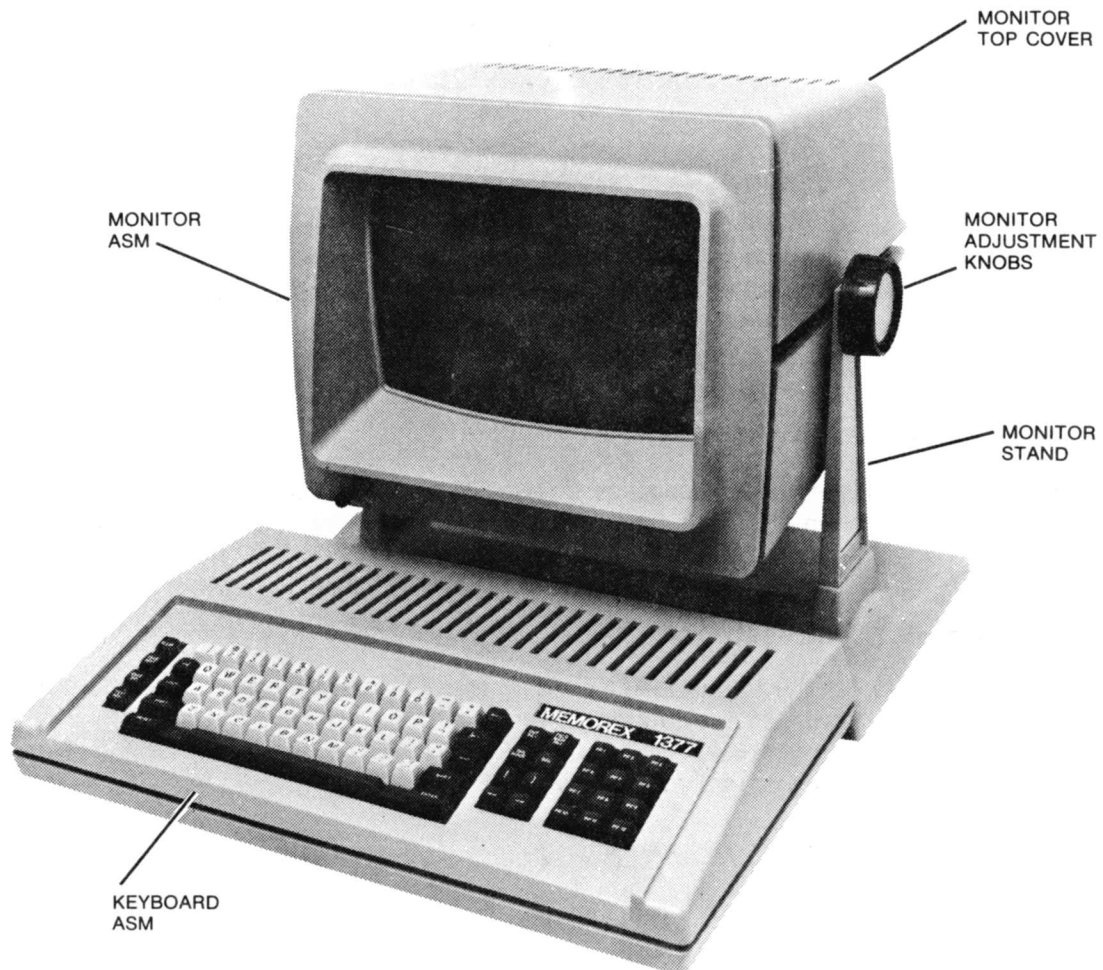

FIGURE 4-2. DISPLAY STATION MAJOR ASSEMBLIES
4. Remove the top cover of the monitor (Figure 4-2).
5. Loosen the monitor adjustment knobs until the housing rocks back and forth freely. (Figure 4-2)